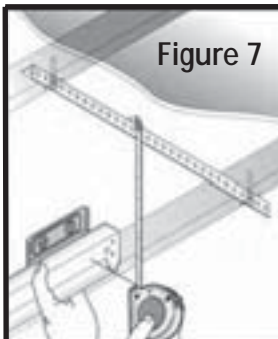
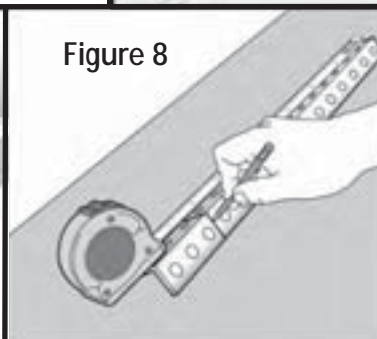
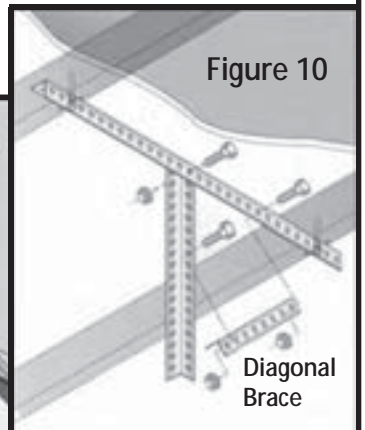

Figure 7
Figure 8
Figure 10
Step 3: Mark and cut a piece of hanger angle to span the distance between the ceiling joists/beams plus 4" (Fig 8/9).
Step 5: Measure the distance from the bottom of the Horizontal Track to the top of the Hanger Angle (Fig 7). Mark and cut a piece of Hanger Angle this distance (Fig 8/9).
Step 6: Mark and cut a short piece of Hanger Angle to form a 45° brace (Fig 8/9/10). Securely fasten the Hanger Angles using (3) 3/8"x1-1/2" Machine Bolts and (3) 3/8"-16 Hex Nuts as shown in Figure 10.